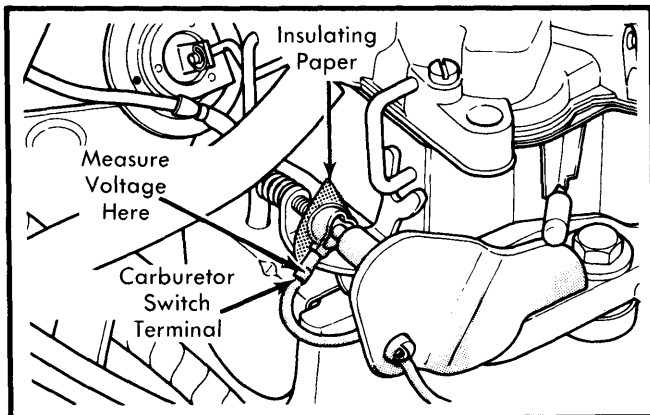

Fig. 4 Checking Voltage at Carburetor Switch
7) If battery voltage was recorded in step 6), place a thin insulator (piece of paper) between curb idle adjusting screw and carburetor switch or make sure screw does not touch switch. See Fig. 4. Connect negative lead of voltmeter to a good ground. Turn ignition switch to "RUN" position, and touch positive voltmeter lead to carburetor switch terminal. Reading should be approximately 5 volts. If so, proceed to step 10).
2) Place a thin insulator (piece of paper) between curb idle adjusting screw and carburetor switch, or make sure screw is not touching switch. See Fig. 4. Remove and plug vacuum line at vacuum transducer.